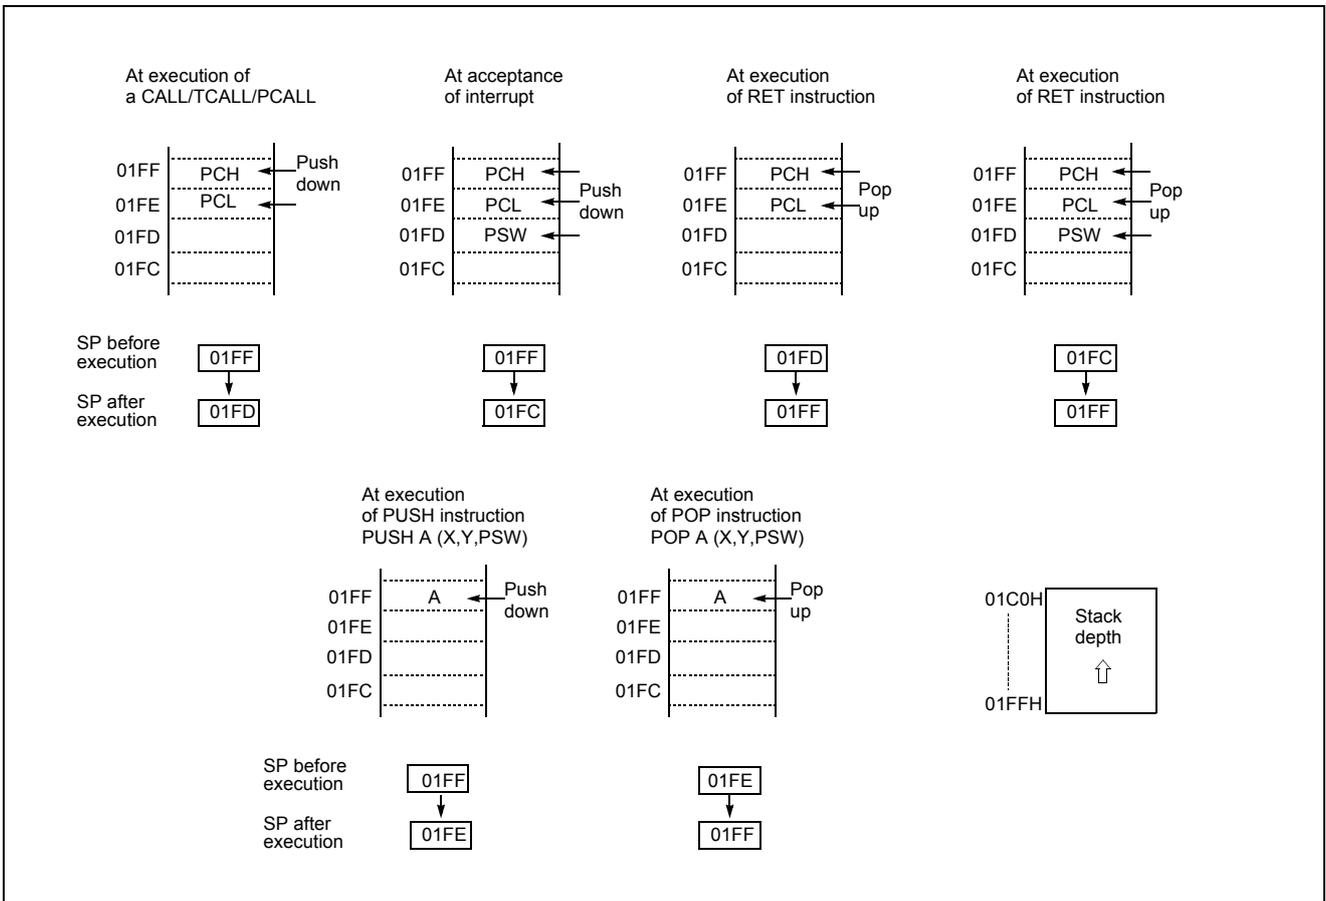

Figure 8-4 Stack Operation
The save/restore locations in the stack are determined by the stack pointed (SP). The SP is automatically decreased after the saving, and increased before the restoring. This means the value of the SP indicates the stack location number for the next save. Refer to Figure 8-4 on page 25.